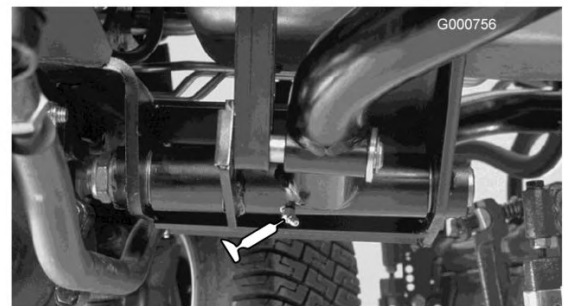

Figure 50
- Rear lift arm pivots (2) (Figure 50)